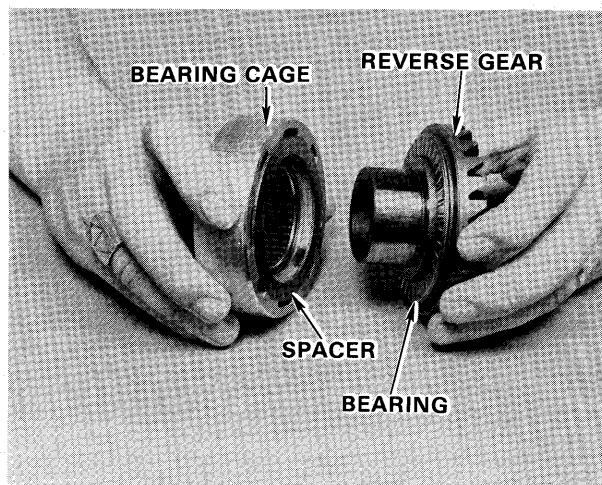

Figure 25—Reverse Gear Assembly
- B. Reassemble reverse gear, radial bearing prop shaft bearing cage and spacer. See figure 25.